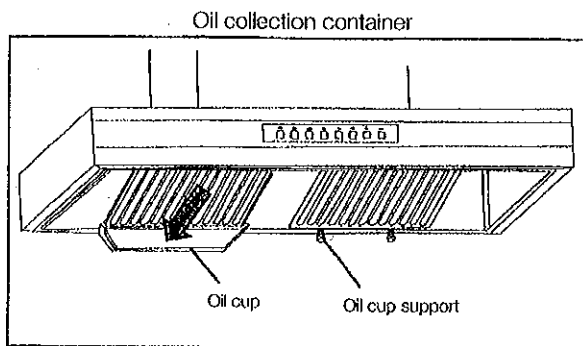

Fig. 6
- Dismantle oil container and filter Figs 6. to 8 to gain access to the fan housing.